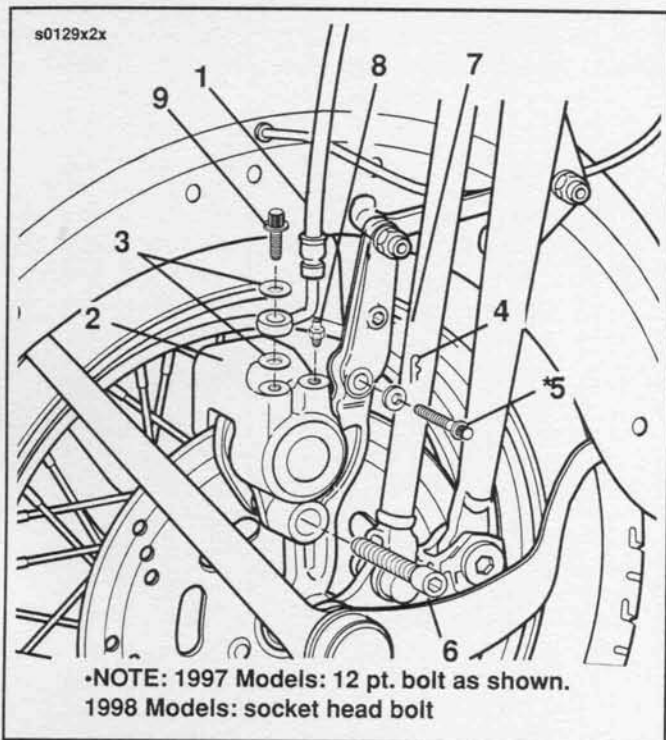

Figure 2-54. Brake Mounting -FLSTS (1997 Model Shown)
1. See Figure 2-54. Disconnect brake line (1) from caliper (2) and front master cylinder. Drain brake fluid.
2. Discard banjo bolt washers (3). Remove brake line assembly, if necessary.
- See Figure 2-54. Remove spring pin (4) from upper caliper mounting bolt (5).
- See Figure 2-54. Coat the outside diameter of lower mounting bolt (6) with Dow Corning MOLY 44 light grease.
- Install brake caliper (2) on brake disc.
- See Figure 2-54. Place flat washer (7) on upper mounting bolt (5), then insert the bolt through the bracket holes, and the mounting plate. Screw the bolt into the threaded bushing.
- 1997 Models (12 pt. bolt):** Tighten upper mounting bolt (5) to 42-46 ft-lbs (57-62 Nm). Install washer and new spring pin (4).